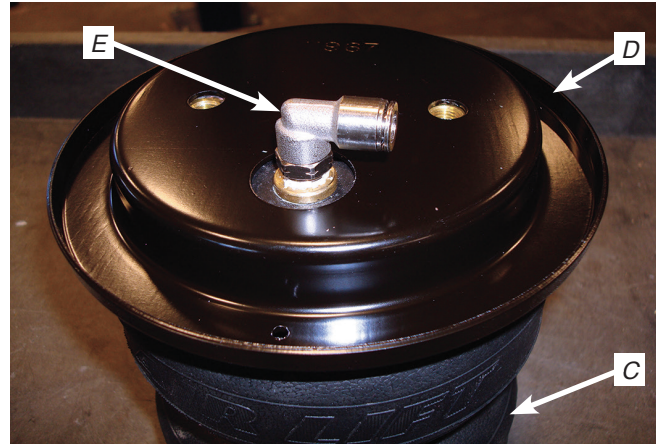

Fig. 5
2. Install the swivel fitting (E) into the top of the air spring finger-tight plus one and a half turns (Fig. 5). Repeat for both air springs.